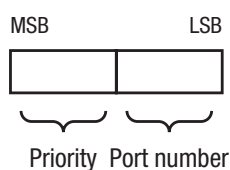

Figure 30: Port Identifier
- If two paths with the same root path costs lead out from a bridge, the port identifier is used as the last criterion (see fig. 30). This decides which port is selected.